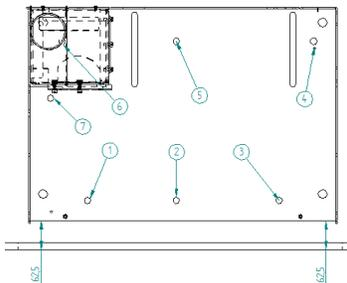

Figure 5 – Fixing base equipment
- As can be seen in Figure 5, a distance of 62.5mm from the base to the front of the wall must be left (it must be perfectly parallel).